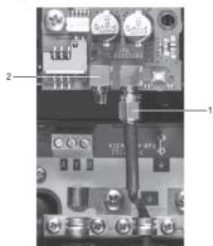

Fig. 13 Fitting an external antenna
Connect the antenna cable to the SMA connection (pos. 1) of CIM 260. See fig. 13. Install the antenna outside the control cabinet in a position with good reception conditions. If required by the telecom company, connect an additional antenna.